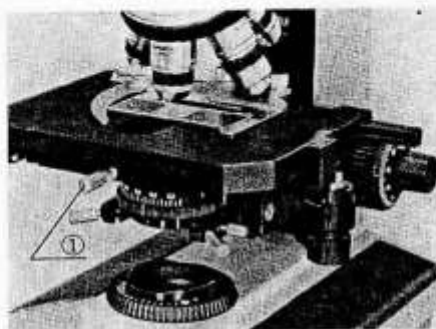

Fig. 9
3) Bring the portion of the specimen to be observed into the light path by means of the low drive stage control knobs. (Fig. 9)
- ★ Tighten the stage clamping screw ①.